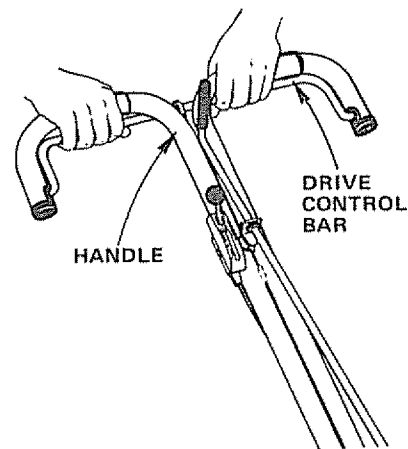
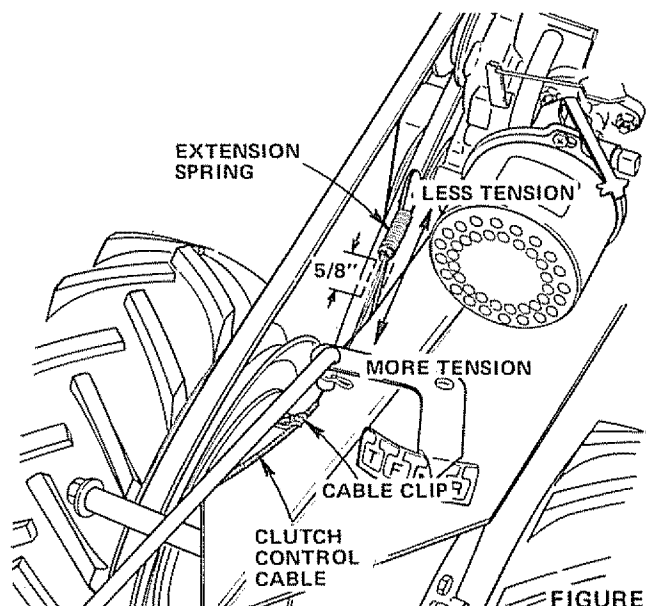

FIGURE 29
FIGURE 30
For proper belt tension, the Extension Spring (Fig. 30) should have approximately 5/8 inch stretch with Drive Control Bar (Fig. 29) against the Handle Grip. This dimension can be obtained as follows:
1. Loosen Cable Clip Screw securing the Clutch Control Cable (Fig. 30) and slide Cable forward for less tension and rearward for more tension. Tighten Cable Clip Screw securely.